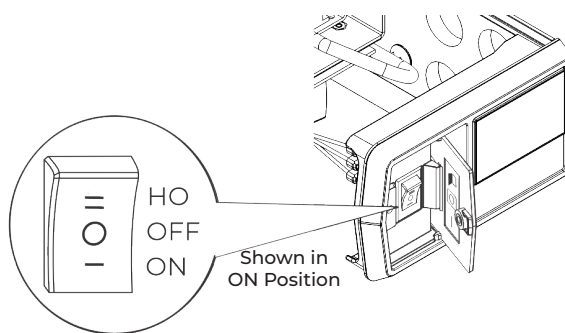

Fig. 6
2. Confirm ON/OFF/HO switch is in the ON position. (Fig. 6)